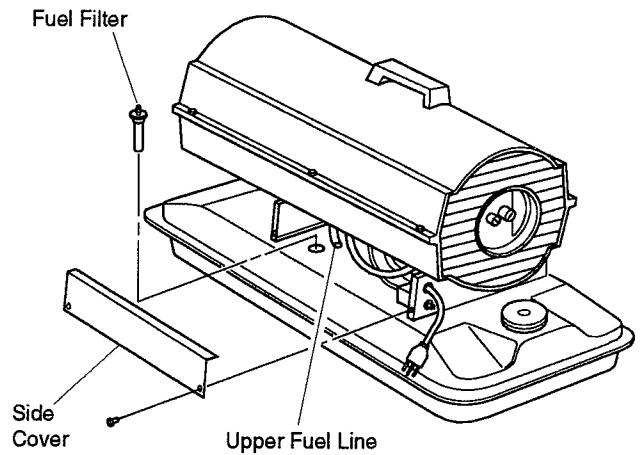

Figure 17 - Fuel Filter Removal, Models 2E510D and 2E511C
3. Pull upper fuel line off fuel filter neck (see Figure 17).